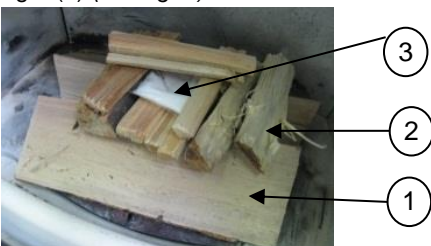

Fig. 4: ignite the fire
Place 2 - 3 logs (approx. 1,3 kg in total) crossways in the combustion chamber (1) with sufficient distance from each other (min. 2 cm), on top of that place some softwood chippings (approx. 0,5 kg) (2) and some ignition aid and light (3) (see fig. 4).